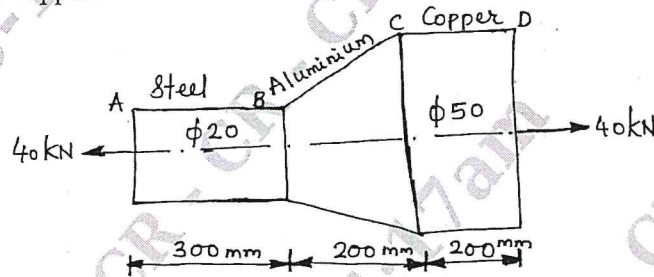

Fig. Q1(c)
- c. A stepped bar is subjected to an external loading as shown in Fig. Q1(c). Calculate the change in the length of bar. Take  $E = 200 \text{ GPa}$  for steel,  $E = 70 \text{ GPa}$  for Aluminum and  $E = 100 \text{ GPa}$  for copper. (10 Marks)